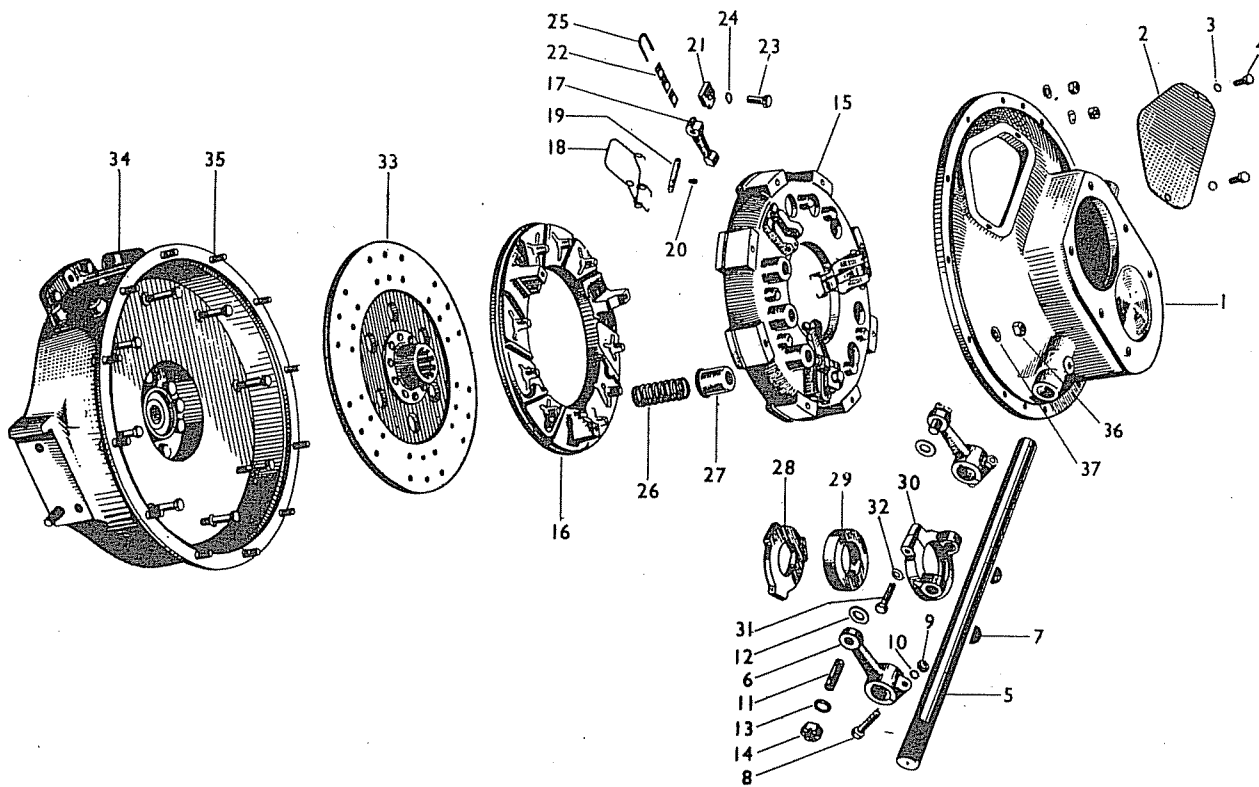

Fig. 11—Typical View of Clutch, as fitted to 8-71 A-D.
6. CLUTCH—Model 8-71A-D. (Figure 11).